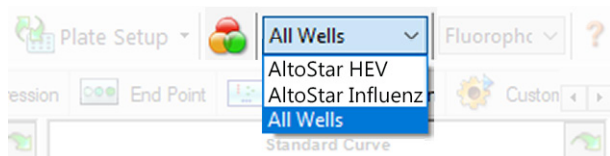

Figure 4: Well Group button and Well Group drop-down menu
In the Data Analysis window ensure to select the **Well Group** of the AltoStar® HEV RT-PCR Kit 1.5. Therefore, click on the **Well Group** drop-down menu right next to the **Well Group** button (see figure 4) of the toolbar. Do not use the “All Wells” **Well Group**. The selection in figure 4 is used as a general example view.
1. In the Data Analysis window ensure to select the **Well Group** of the AltoStar® HEV RT-PCR Kit 1.5. Therefore, click on the **Well Group** drop-down menu right next to the **Well Group** button (see figure 4) of the toolbar.